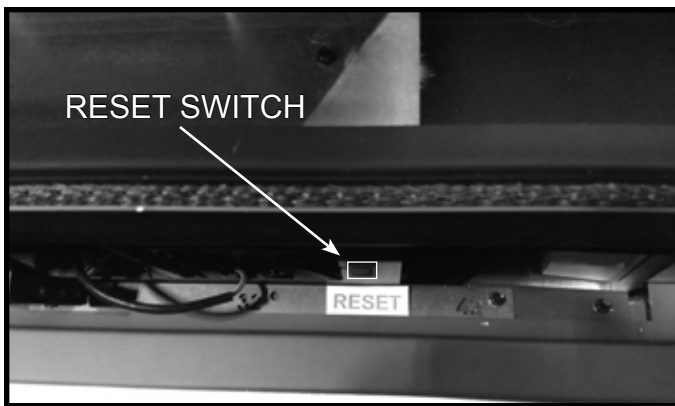

Figure 3.8 Reset Switch Location
- Locate reset switch inside the appliance. See Figure 3.8. Switch is located above the “RESET” label. Hold reset switch down for one second and release. A “beep” will signal module is reset.